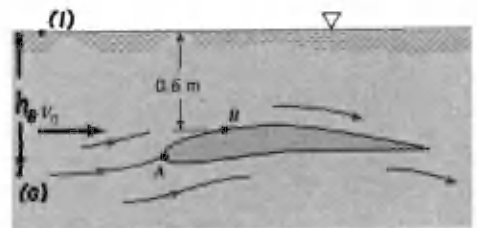

FIGURE P3.13R
3.13R (Cavitation) Water flows past the hydrofoil shown in Fig. P3.13R with an upstream velocity of  $V_0$ . A more advanced analysis indicates that the maximum velocity of the water in the entire flow field occurs at point B and is equal to  $1.1V_0$ . Calculate the velocity,  $V_0$ , at which cavitation will begin if the atmospheric pressure is 101 kPa (abs) and the vapor pressure of the water is 3.2 kPa (abs).